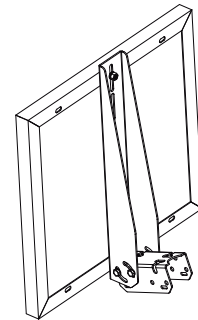

figure 1
Step2. For pole mounting, use U bolts or steel clamps to fix the PV module and mount assembly to the pole. See figure 1. The U-Bolts and/or steel clamps are not included in the kit.